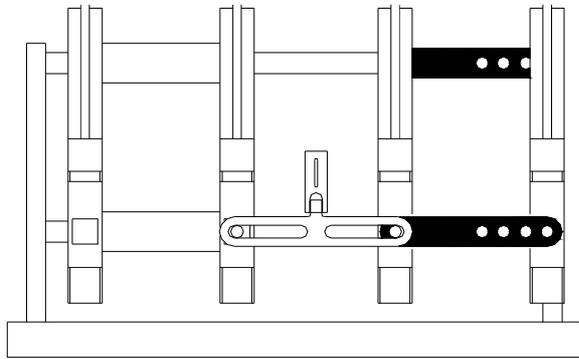

Figure 1.Configuration 2 moveable clamps + 2 fixed clamps
- Two fixed clamps and two moveable clamps Fig. 1